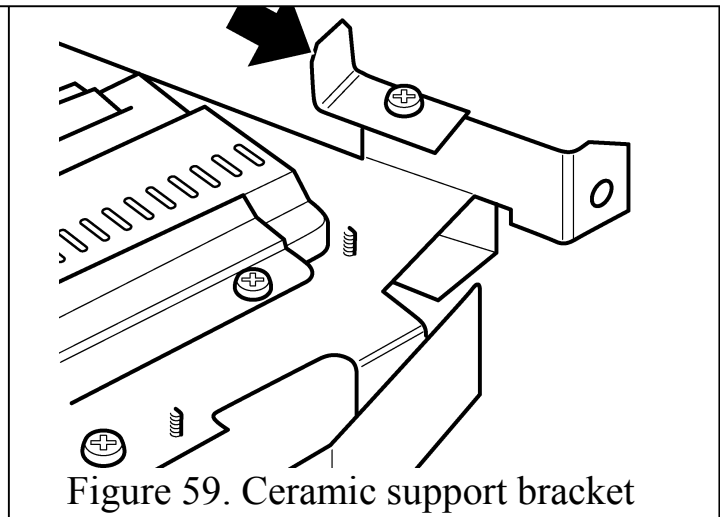

Figure 59. Ceramic support bracket
burner unit. This will avoid damage to the brackets and the work surface (see figure 59)
2. If lying the burner on its back, unscrew and remove the two ceramic support brackets from the top of the burner unit. This will avoid damage to the brackets and the worksurface (see figure 59)